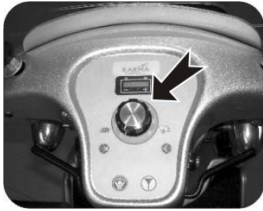

Figure 5.3
5.3.1 Allow you to set various forward and reverse speeds. (See Figures 5.3 and 5.4)